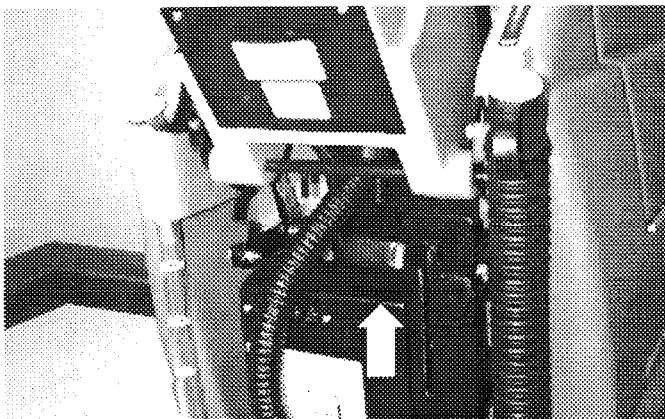

FIG. 16
- b. Lift the brush pressure lever to the locked position. (*Figure 16*)